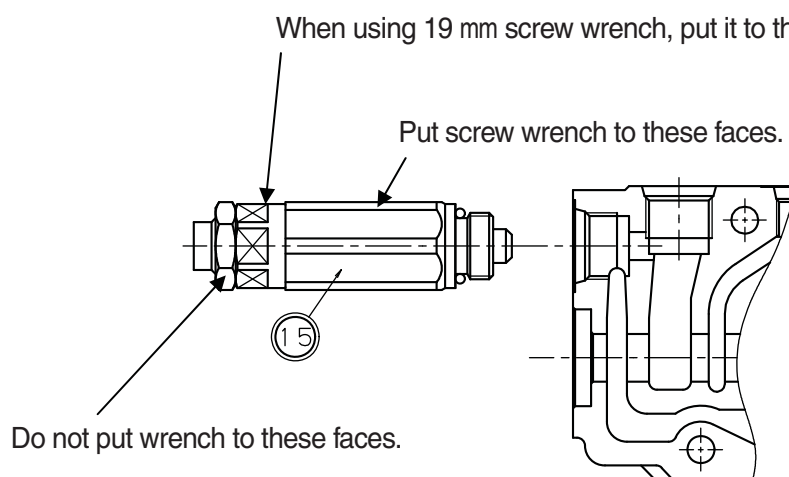

Fig.23 Installing main relief valve and overload relief valve
##### Installing main relief valve (MRV) and overload relief valve (ORV) (see Fig.23)
- ① Fasten ORV (15) with specified torque with 22 mm screw wrench or deep socket wrench.
- Put screw wrench (or deep socket wrench) to 22 mm hexagonal part of pressure regulating body. Screw wrench to put the hexagonal part as shown in the Fig.23.
### Installing main relief valve (MRV) and overload relief valve (ORV) (see Fig.23)